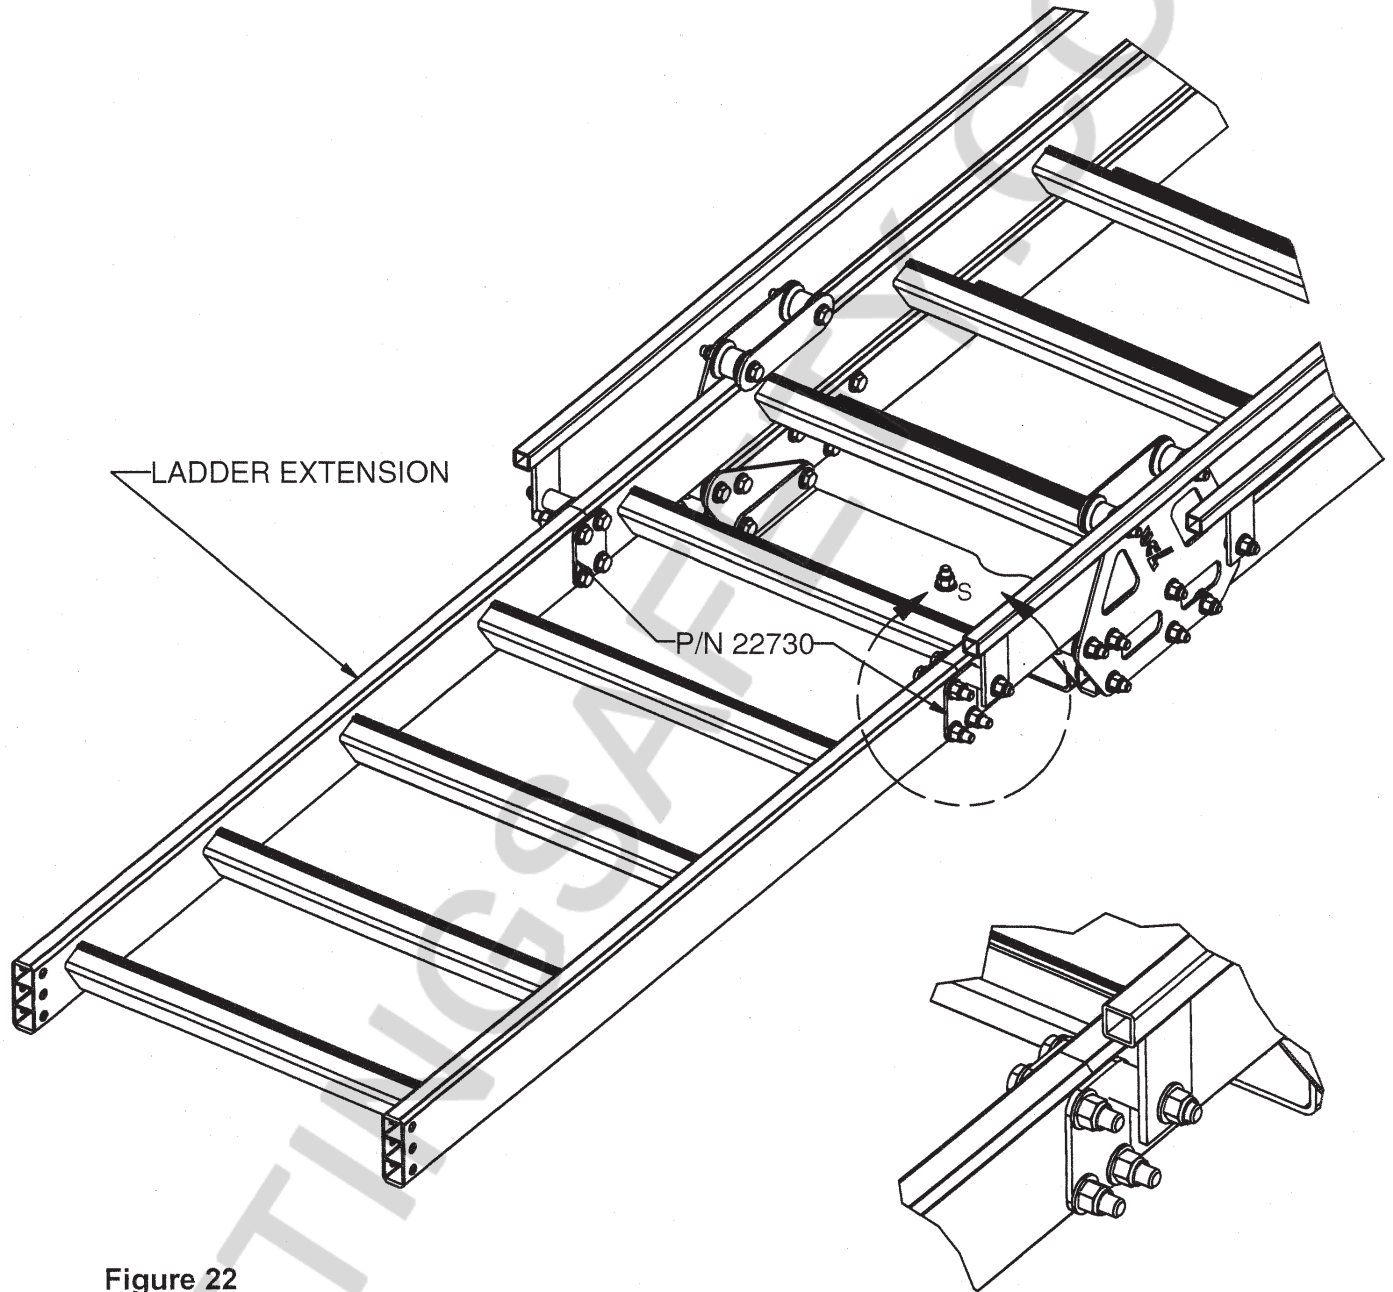

Figure 22
1. If you have purchased a ladder with a 1' (30 cm) or 2' (60 cm) extension it will be shipped already attached. If you have purchased a ladder with a 4' (120 cm) or larger extension you will be required to attach it. Use P/N 22730 and the provided hardware to attach the extension to the bottom of the ladder as shown in Figure 22.